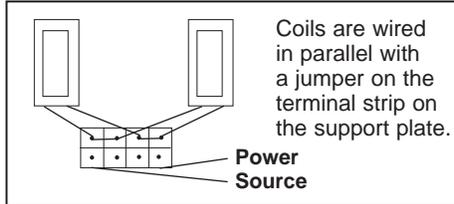

Figure 2
**Note 2:** The two coils, AC or DC, are to be connected in parallel, see Figure 2.